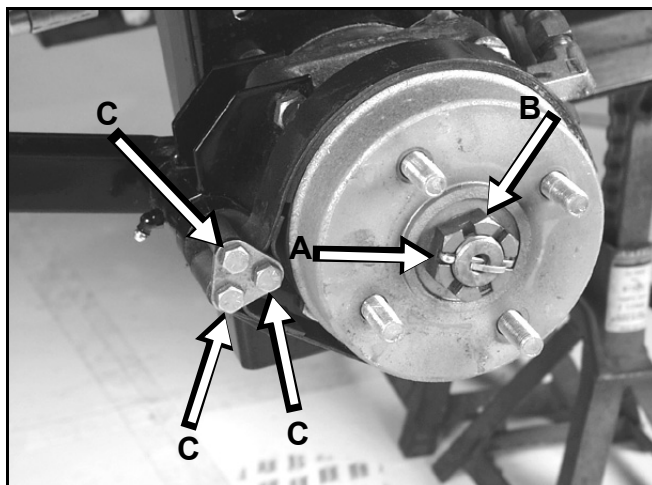

Figure 67
3. Apply the parking brake and remove the drive wheel (Figure 67).
4. Remove the cotter pin (A) (Figure 67) from the wheel motor output shaft. Then loosen the nut (B) (Figure 67) securing the hub to the output shaft. Release the parking brake.
5. Remove the 3 bolts securing the brake band (C) (Figure 67) to the brake actuator. Then, remove the brake band from the hub.